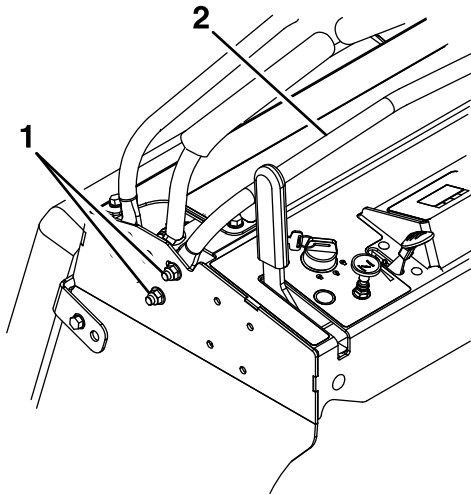

Figure 29
2. Loosen the bolts on both sides of the control tower by loosening the two nuts on each side (four total) of the console (see Figure 29).